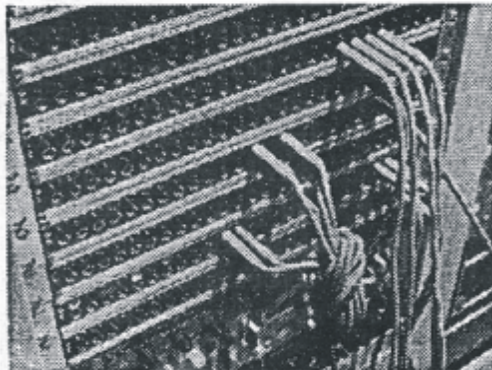

Figure K-11. Patch Panel
d. Above each pair of jacks are labels describing what the various outputs and inputs are (Figure K-11).